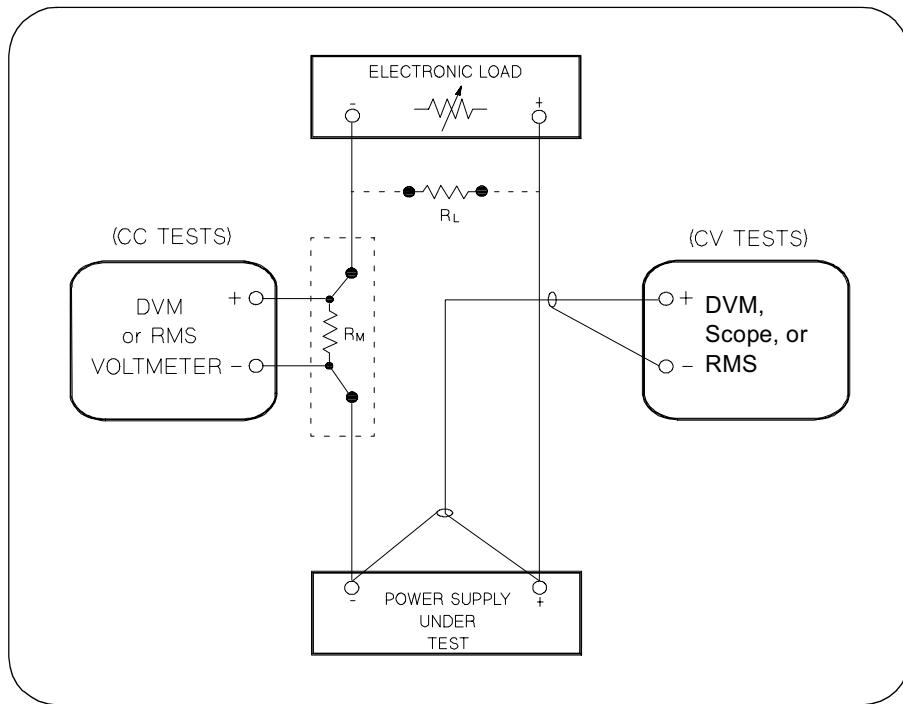

Figure A-1 Performance Verification Test Setup
Most tests are performed at the front terminals as shown in Figure A-1. Measure the dc voltage directly at the (+) and (-) terminals on the front panel.
To eliminate output current measurement error caused by the voltage drops in the leads and connections, connect the current monitoring resistor between the (-) output terminal and the load as a four-terminal device. Connect the current-monitoring leads inside the load-lead connections directly at the monitoring points on the resistor element (see R_M in Figure A-1).
- 1 Turn off the power supply and connect a digital voltmeter between the (+) and (-) terminals of the output to be tested as shown in Figure A-1.
- 1 Turn off the power supply and connect a digital voltmeter between the (+) and (-) terminals of the output as shown in Figure A-1.
- 6 Adjust the transformer to high line voltage (127 Vac for nominal 115 Vac, 110 Vac for nominal 100 Vac, or 253 Vac for nominal 230 Vac). Record the voltage reading on the digital voltmeter. The difference between the digital voltmeter readings in steps (5) and (6) is the CV line regulation. The difference of the readings should be within the limit of (5 mV)* or (9 mV)**.
- 7 Repeat steps (1) through (6) for the other output.
- 1 Turn off the power supply and connect the output to be tested as shown in Figure A-1 to an oscilloscope (ac coupled) between (+) and (-) terminals. Set the oscilloscope to AC mode and bandwidth limit to 20 MHz. Connect a resistive load (13.5Ω)[‡] to the terminal at (B) as shown above.
- 6 Repeat steps (1) through (5) for the other output.
- 1 Turn off the power supply and connect the output to be tested as shown in Figure A-1 with an oscilloscope. Operate the electronic load in constant current mode.
- 1 Turn off the power supply and connect a 0.01Ω current monitoring resistor (R_{M1}) across the output to be tested and a digital voltmeter across the current monitoring resistor (R_{M1}) as shown in Figure A-1.